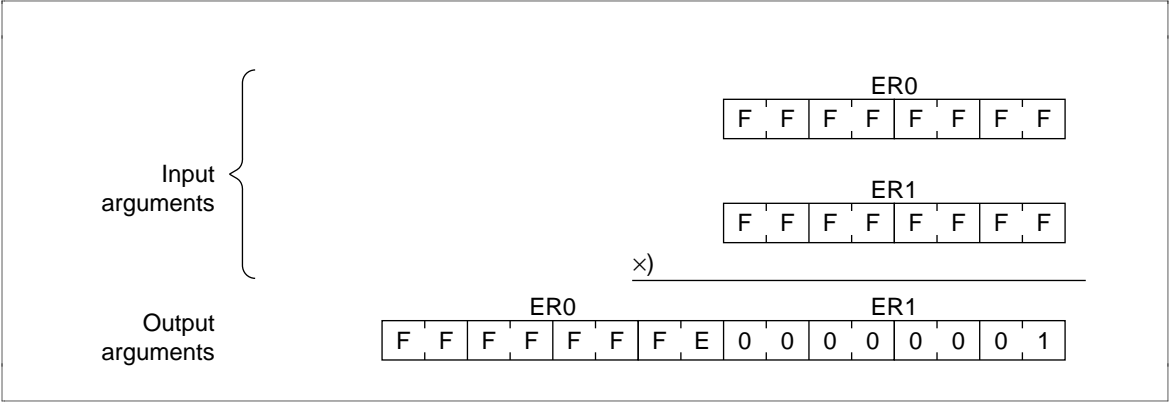

Figure 4.33 Executing MUL
- Figure 4.33 is an example of execution of the software MUL. When the input arguments are set as shown, the product is set in ER0 and ER1.